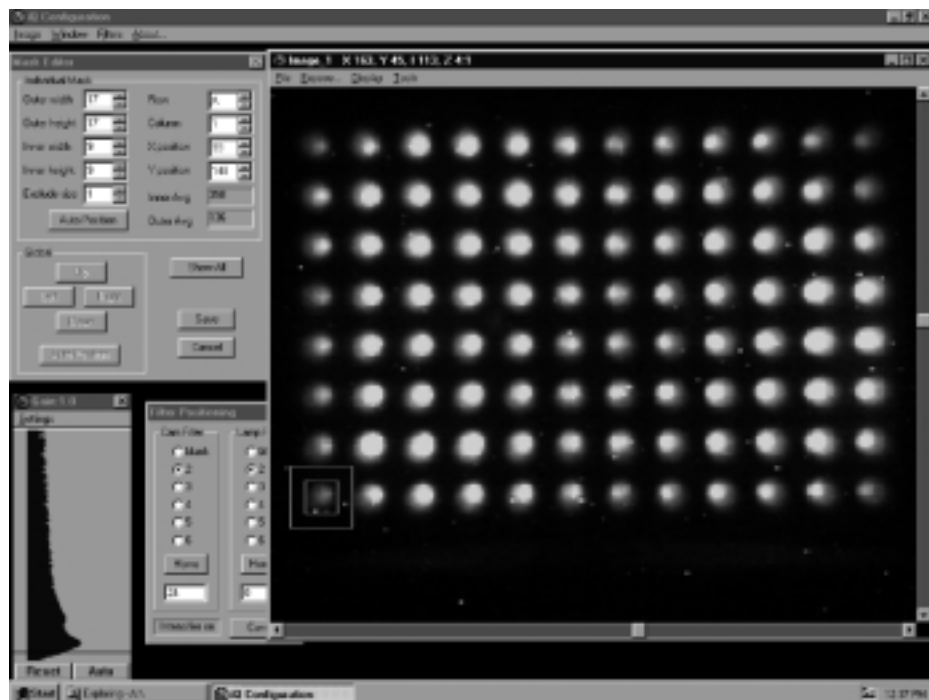

Fig. 6.3. iQ configuration window with the calibration plate image showing a mask over well A1 and with the mask editor dialog box.
2. Double click on the mask96.ini file. The Mask Editor dialog box will open and two concentric squares will appear around the lower left well (see Figure 6.3). The Row and Column text boxes on the right side of the Mask Editor dialog box indicate the well position. Note that the image is upside down and in Figure 6.3 well A1 appears in the lower left corner. The column on the left side of the Mask Editor dialog box shows the size of the mask over well A1. The inner square is 8 x 8 pixels and the outer square is 16 x 16 pixels for each of the four corners. For all other wells, the inner squares are 9 x 9 and the outer squares are 17 x 17.